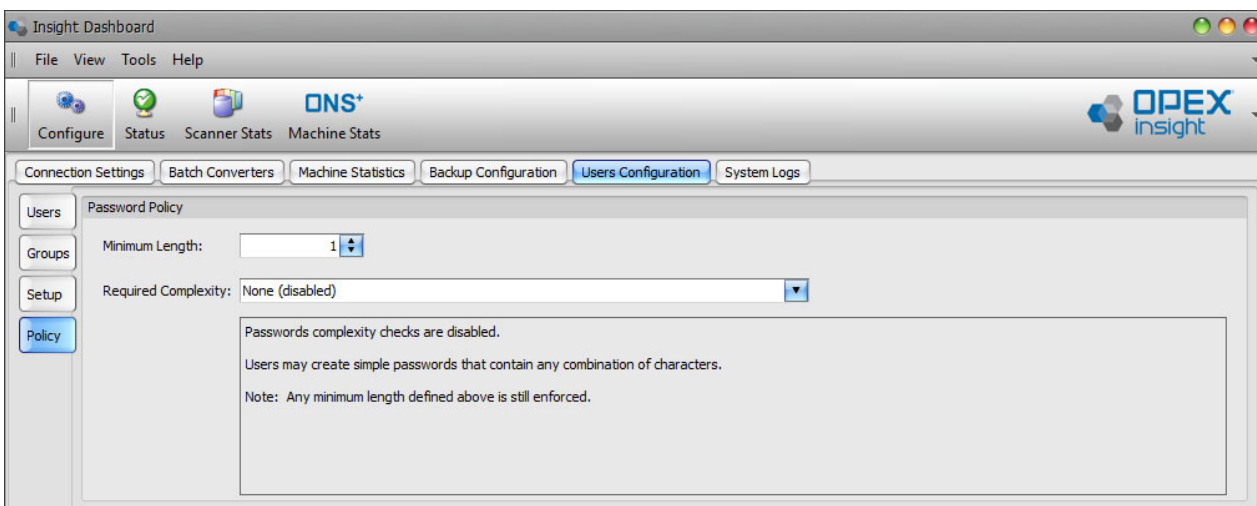

Figure 2-11: Password Policy window
1. Click the **Policy** tab on the left side of the screen. The Password Policy window appears (Figure 2-11).